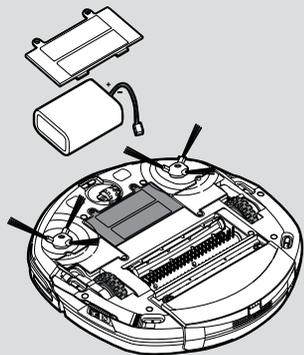

Fig.26
**REPLACING THE ROBO.COM3 BATTERIES [Fig.26]**